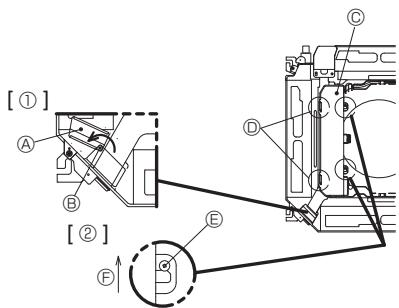

Fig. 5-4
- Loosen the one screw securing the electrical wiring service panel at the cableentry (optional VALVE KIT lead wire), and then turn the service panel to the position shown in the diagram. [Fig. 5-4 ①]
- Loosen the two screws securing the electrical box cover, then slide the electrical box cover. [Fig. 5-4 ②]